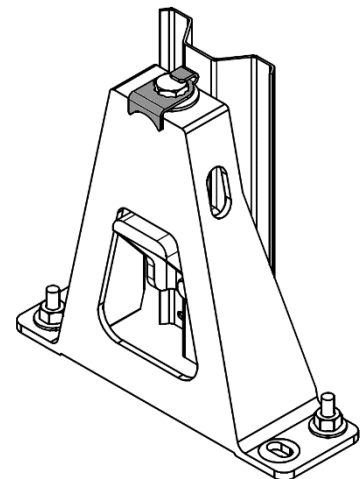

Figure 7: Retention clip (shaded) over bolt
17. Drop retention clip into place over bolt as shown in Figure 7.